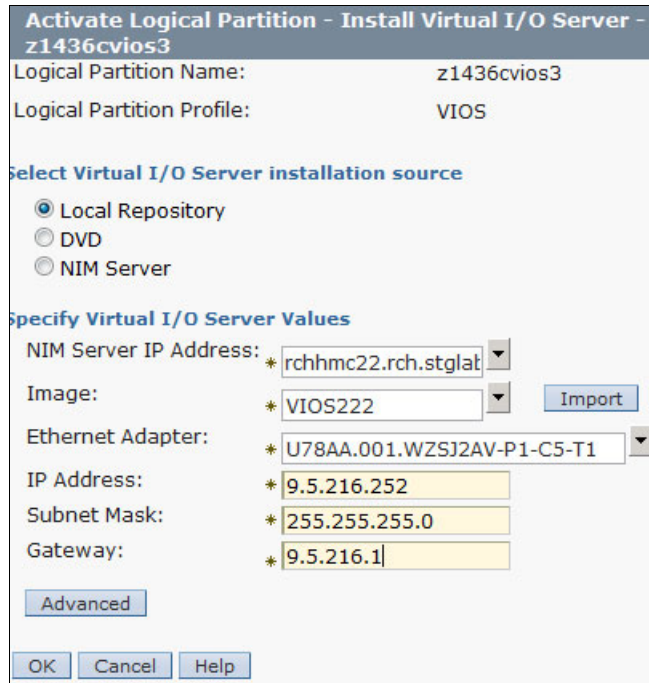

Figure 3-3 Installing VIOS from a local repository
- To import the image file into the local repository, select the Virtual I/O Server installation source **Local Repository** and click **Import**, as shown in Figure 3-3.